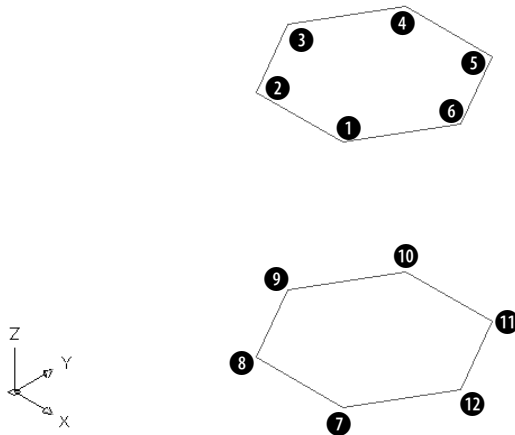

Figure 23-8: The two hexagons are the basis for a night table.
2. Save it as `ab23-02.dwg` in your AutoCAD Bible folder. Two hexagons have been drawn, one 24 inches above the other, on the Const layer, as shown in Figure 23-8.
Specify location for vertex 1: *Pick 1 in Figure 23-8.*
Specify location for vertex 2 or <define faces>: *Pick 2 in Figure 23-8.*